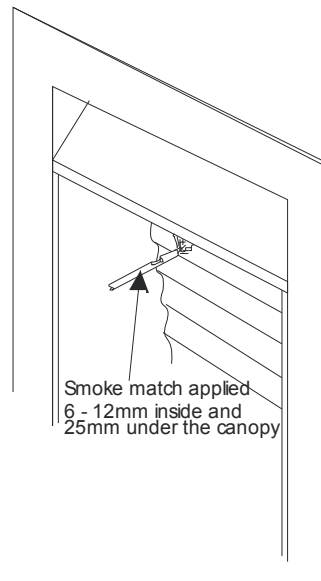

Figure 69
3. Test for spillage using a smoke match (in a 'Blume tube') at the top of the appliance, fireplace opening or under the canopy at the centre, with the smoke match being approximately 25mm under and 6 - 12mm inside the opening (see **Figure 69**).